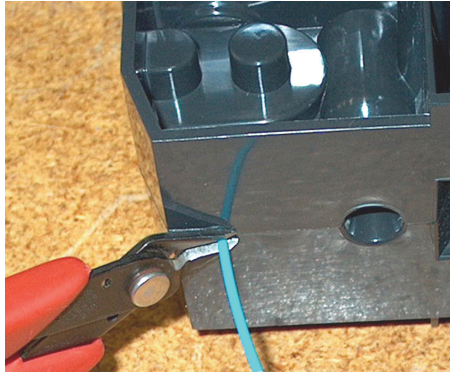

Figure 11: Snipping the material filament
5. With the cutter from your Startup Kit, snip the filament flush with the end of the cartridge (see Figure 11 on page 34).
If the display shows **Load Failed**, press **Retry**. If load fails again, remove the cartridge, snip the material (see Figure 11 on page 34), remove filament in the printer, and reinsert the cartridge.